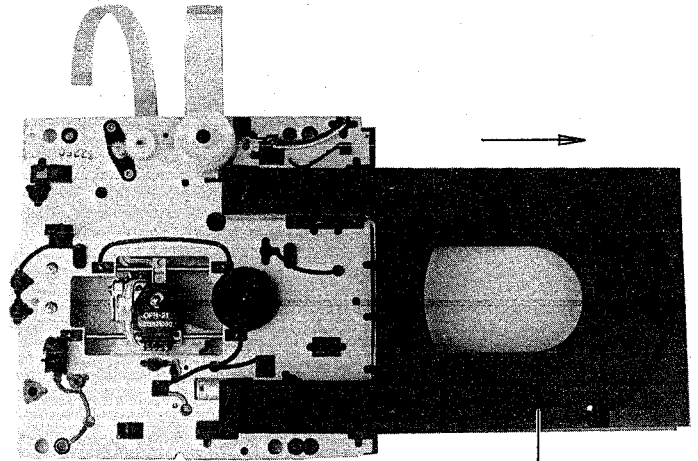

Figure 9
2. Pull disc tray to the direction indicated by arrow, and the disc tray will be removed. (Figure 9)